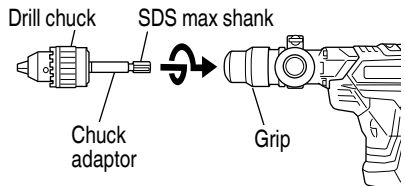

Fig. 23
- (2) Attaching chuck adaptor to drill chuck (Fig. 23)